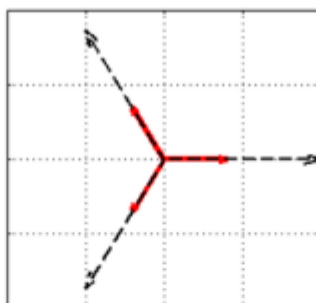

Figure A.4 — Vectorial representation of a symmetrical three-phase fault
- 1) Symmetrical three-phase fault (Table 4, tests VD1, 2, 3, 4, 5), see Figure A.4.